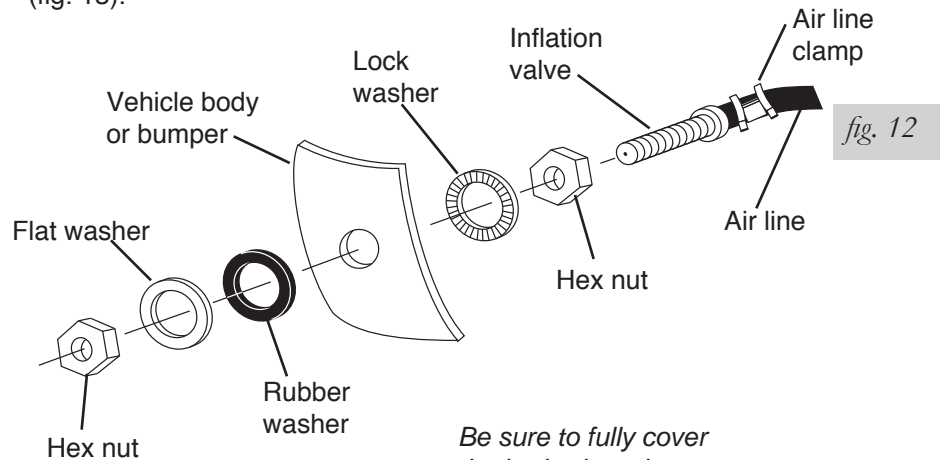

fig. 12
9. Drill a 5/16" hole for the inflation valve and mount as shown (fig. 12). The rubber washer serves as an outside weather seal.
7. Drill 5/16 " hole for inflating valves and mount as illustrated. Rubber washer is for outside weather seal (see fig. 12).